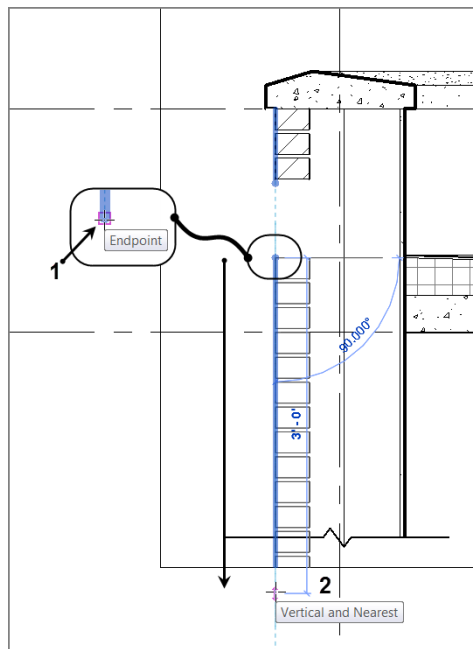

FIGURE 12.13: Picking two points
2. Pick point 1, as shown in Figure 12.13.
4. Pull the cursor straight down, and pick point 2 (see Figure 12.13). Make sure you pick the second point well past the break line, or the brick will stop short.